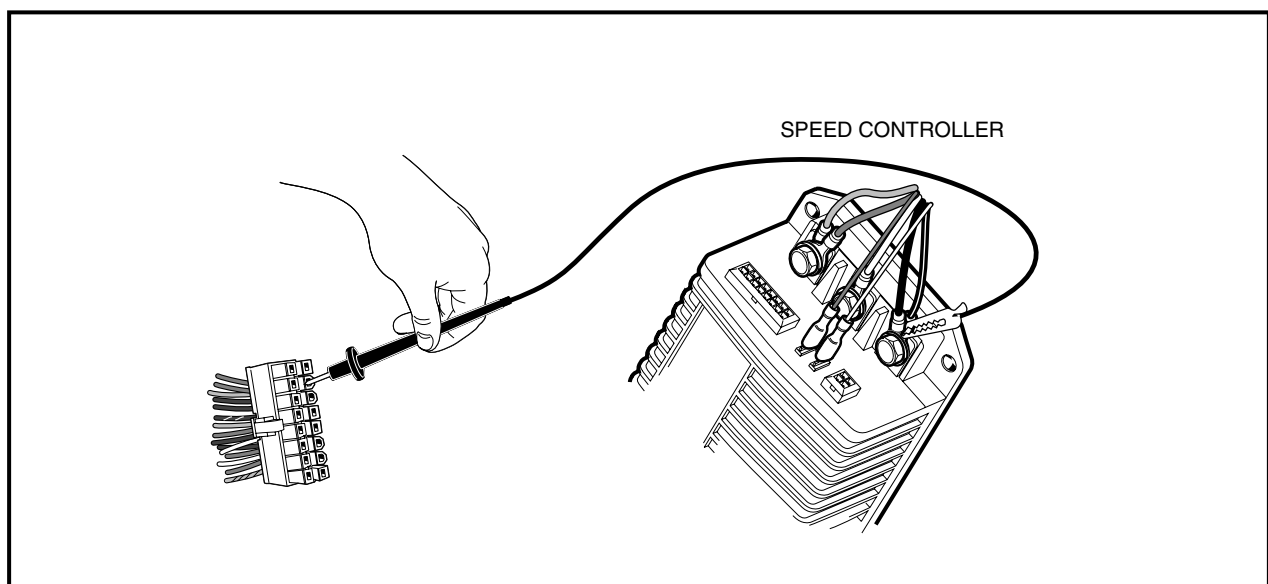

Figure 11-14 Pin 7 Test
4. Place a jumper wire with an alligator clip between the B– terminal of the speed controller (use alligator clip for this connection) and pin 7 (orange/white wire) of the 16-pin connector (**Figure 11-14, Page 11-31**). See following **CAUTION**.